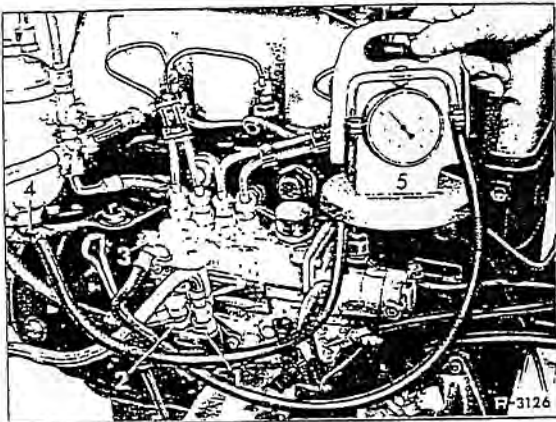

Fig. 00-14/5
1. Measure inflation pressure (priming chamber) of injection pump — this being the equivalent of the opening pressure of the overflow valve; connect up tester between fuel discharge (4) on main filter and fuel intake (3) on injection pump (Fig. 00-14/5).